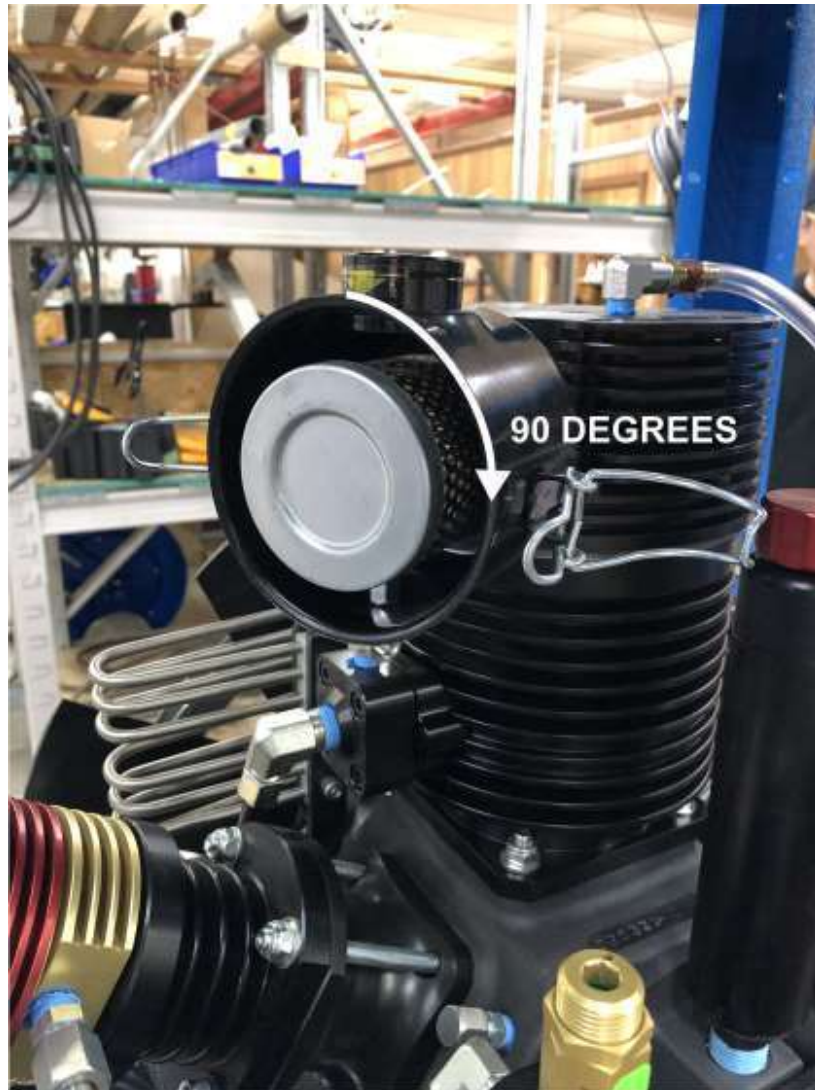

Figure 6.9: Air Intake filter rotation
4. Every 125 working hours rotate the filtration cartridge 90 degrees. (Figure 6.9)